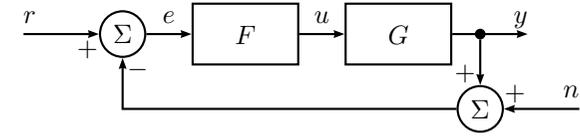

Figure 3.27a
3.27 Figure 3.27a shows a block diagram of a control system. Determine the transfer function
3.28 Consider again the control system in Figure 3.27a, with  $n = 0$  and